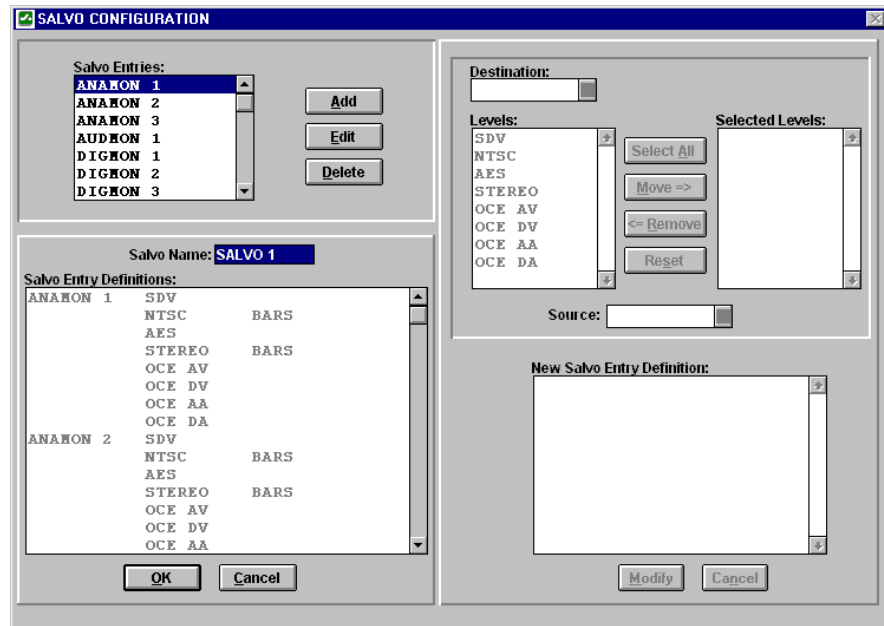

Figure 39 Salvo Configuration Window
1. Click the **Add** button in the SALVO window to open the SALVO CONFIGURATION window (Figure 39).
To modify an existing salvo, select the salvo to be changed and click on the **Edit** button. This will open the SALVO CONFIGURATION window (Figure 39) where any desired changes may be made.
To create a salvo based on an existing one, select the existing salvo and click on the **Copy** button. This will open the SALVO CONFIGURATION window (Figure 39). When this window opens, select a new salvo name, and change the displayed salvo information as required.